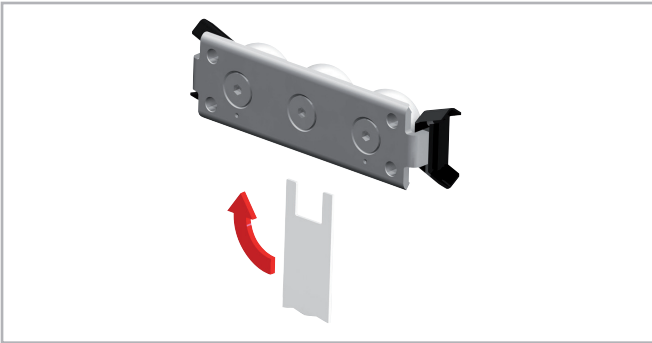

Fig. 50
- The included special flat key is inserted from the side between the rail and the slider and inserted onto the hexagonal or square shaft of the eccentric pin to be adjusted (see fig. 50).